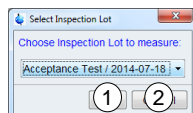

Figure 5-65: Acquisition tab – Select Inspection Lot dialog
Select the **Inspection Lot** to measure from the list in the dialog window shown in Figure 5-65. Click **OK** (Figure 5-65 (1)) to apply the selection. Click **Cancel** (Figure 5-65 (2)) to abort selecting an Inspection Lot for acquisition.